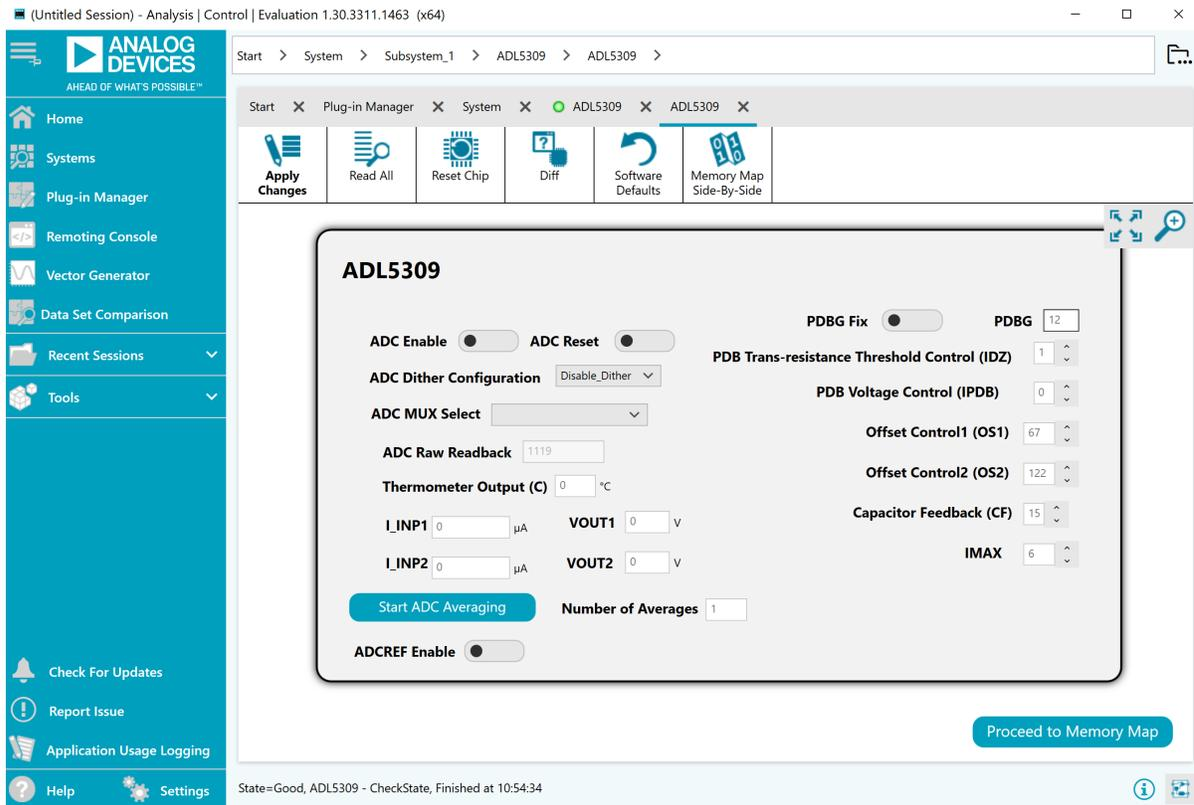

Figure 4. Register Control GUI
13. Double-click the **ADL5309** icon. The ADL5309 GUI window opens, which shows the register settings that can be changed as shown in Figure 4. For more information, refer to the register summary section of the ADL5309 data sheet.